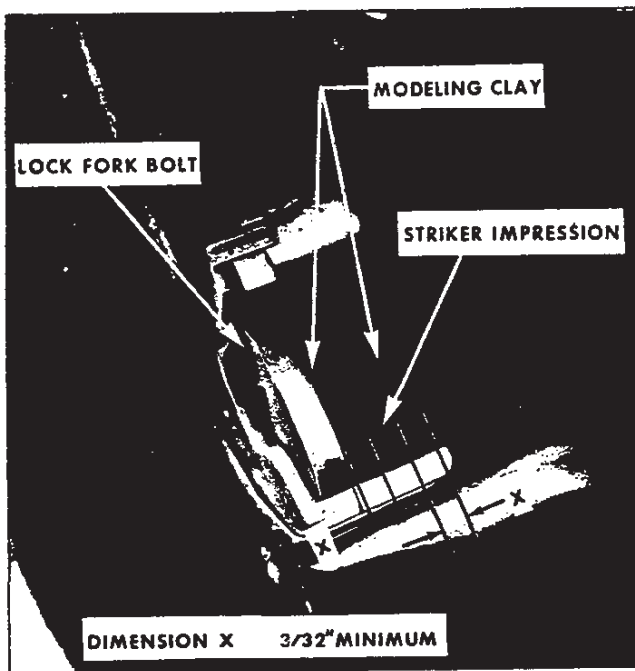

Fig. 16—Checking Adjustment of Striker
- b. Apply modeling clay or body caulking compound to lock bolt opening as shown in Figure 16.
- c. Close door only as far as necessary for striker bolt to form an impression as shown in Figure 16.
- d. Measure striker impression as follows: Striker head should be centered fore and aft as shown; however, some tolerances are allowed. In this alignment, it is important that minimum dimensions as outlined in Figure 16 be strictly maintained. The following spacers are available